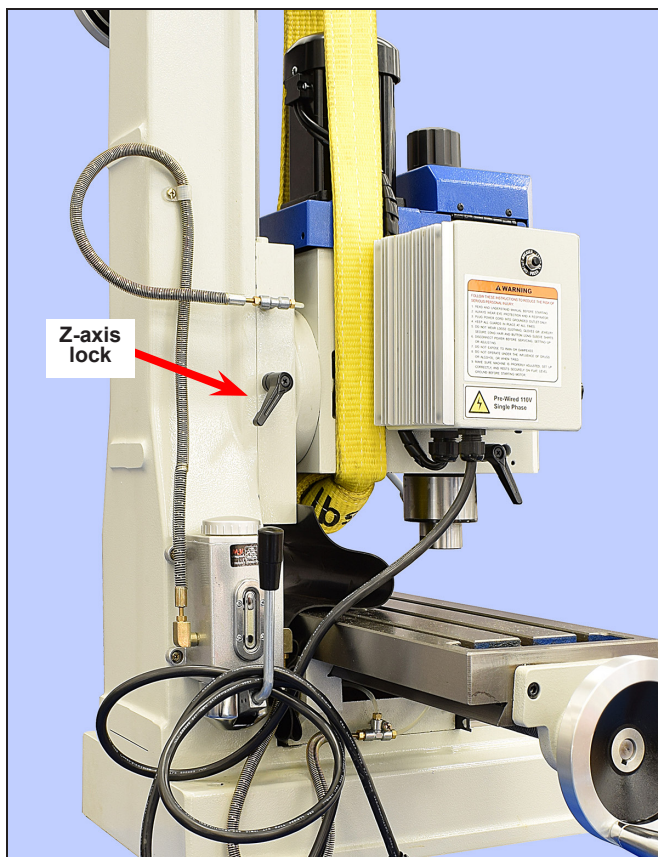

Figure 1-2 Sling position
1. If the handwheels were shipped loose, install the largest of the four at the top of the column. The three smaller handwheels are for the X-axis (2) and Y-axis (1).
8. Run a padded sling under the headstock, as Figure 1-2.